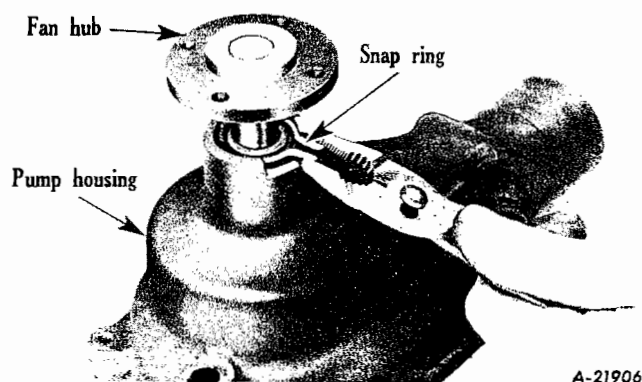

Fig. 39
3. Install snap ring in place behind fan hub (Fig. 39).